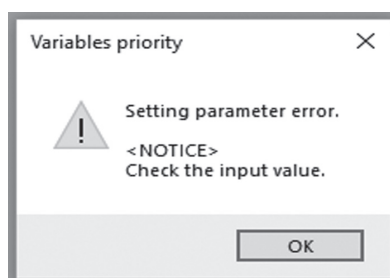

Fig.186
- ① If a mistake is discovered in LinkTop settings after the setting items are inputted and the "OK" button is clicked, then the error box shown in Fig. 186 will be displayed. Click the "OK" button and correct the mistaken input.